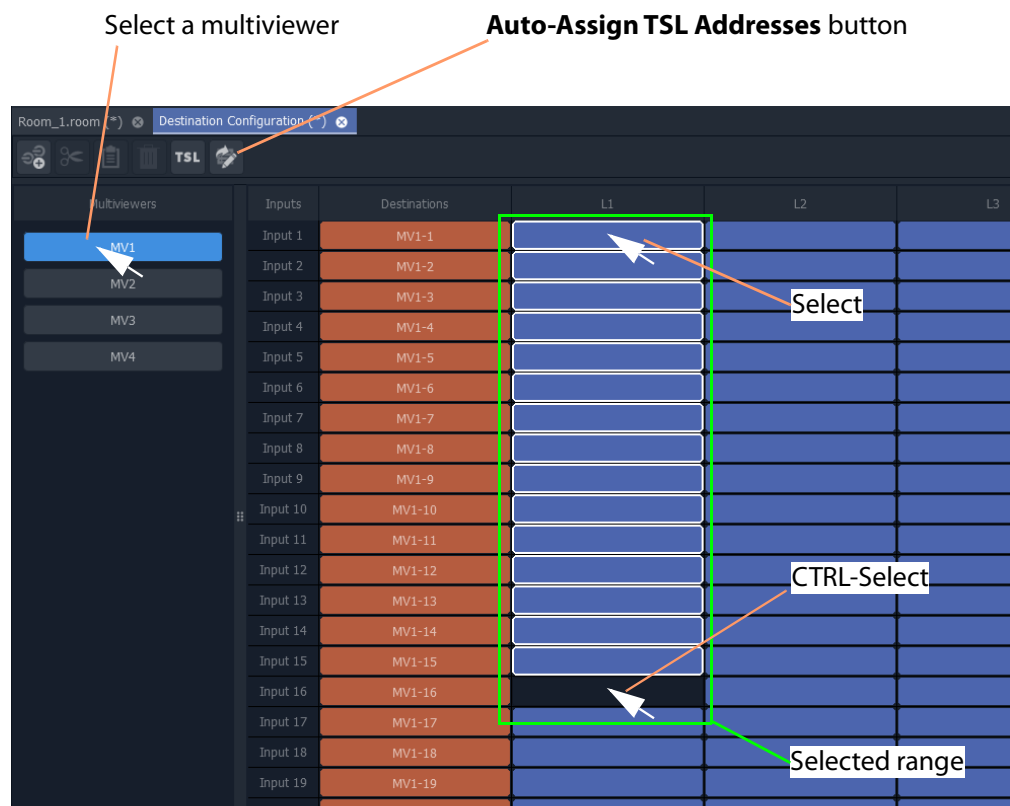

Fig. 15-3: Destination Configuration Tab - TSL Tally Level Config Columns
- 1 Select a multiviewer. (See Figure 15-3.)
This selects the TSL addresses to be filled out. See Figure 15-3.